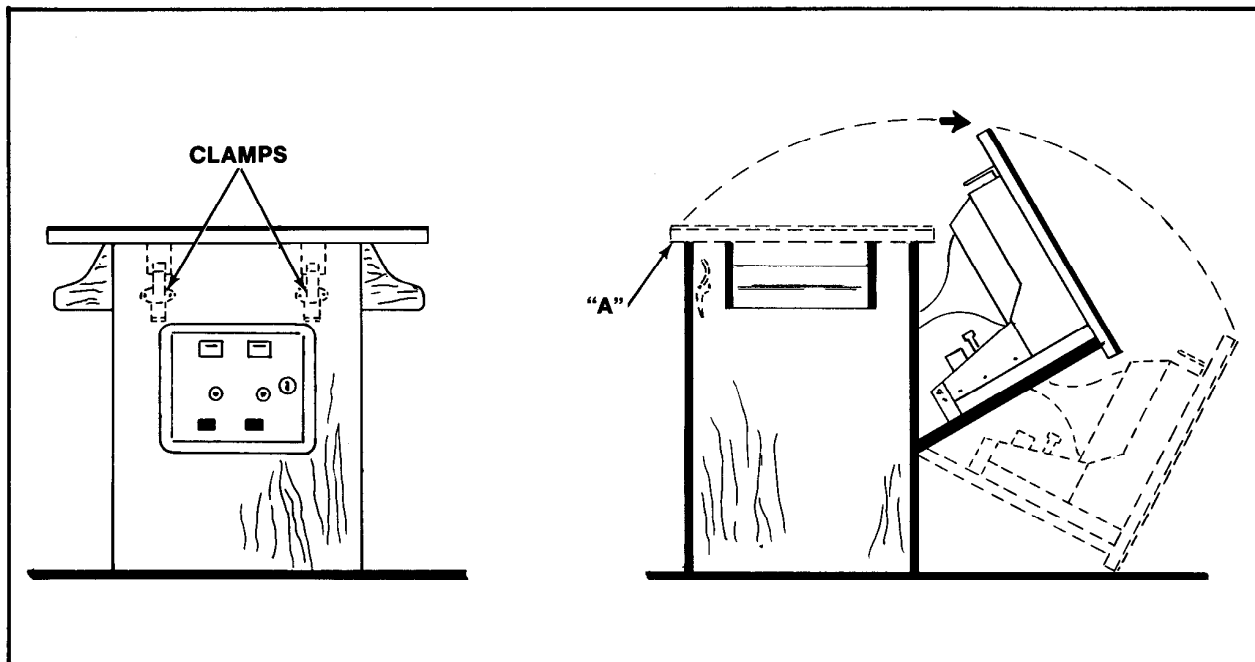

Figure 5. Opening Cocktail game
Open the coin box door and release the two latches indicated in Figure 5.
Grasp the table top at "A" and open it as indicated in Figure 5.
- Grasp the table top at "A" and open it as indicated in Figure 5.